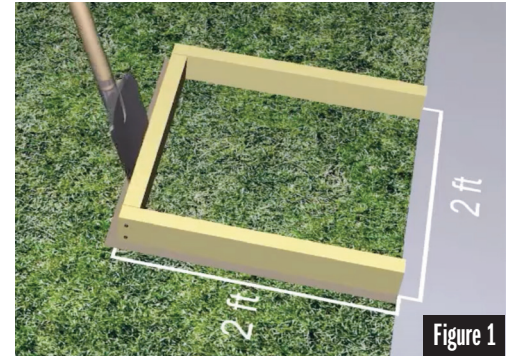

Figure 1
**STEP 1:** Build a 2' x 2' frame out of 2" x 4" lumber & lay it on the ground where you want the hoop installed. See Figure 1.
**STEP 2:** Using a shovel, cut into the ground around the outside of the frame to give the hole a defined edge; remove frame. See Figure 1.